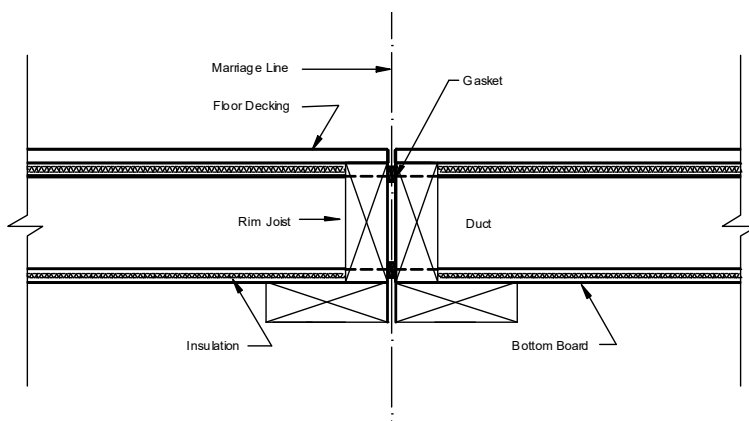

Figure 25. End wall completion. See hinged roof truss installation addendum.
9. **Install gable walls.** Assembled frames or wall studs and sheathing needed for the site assembly of the gable end walls and interior shear wall knee walls (if present) may be provided. Install the gable end walls for each home section as follows (**Figure 25**):